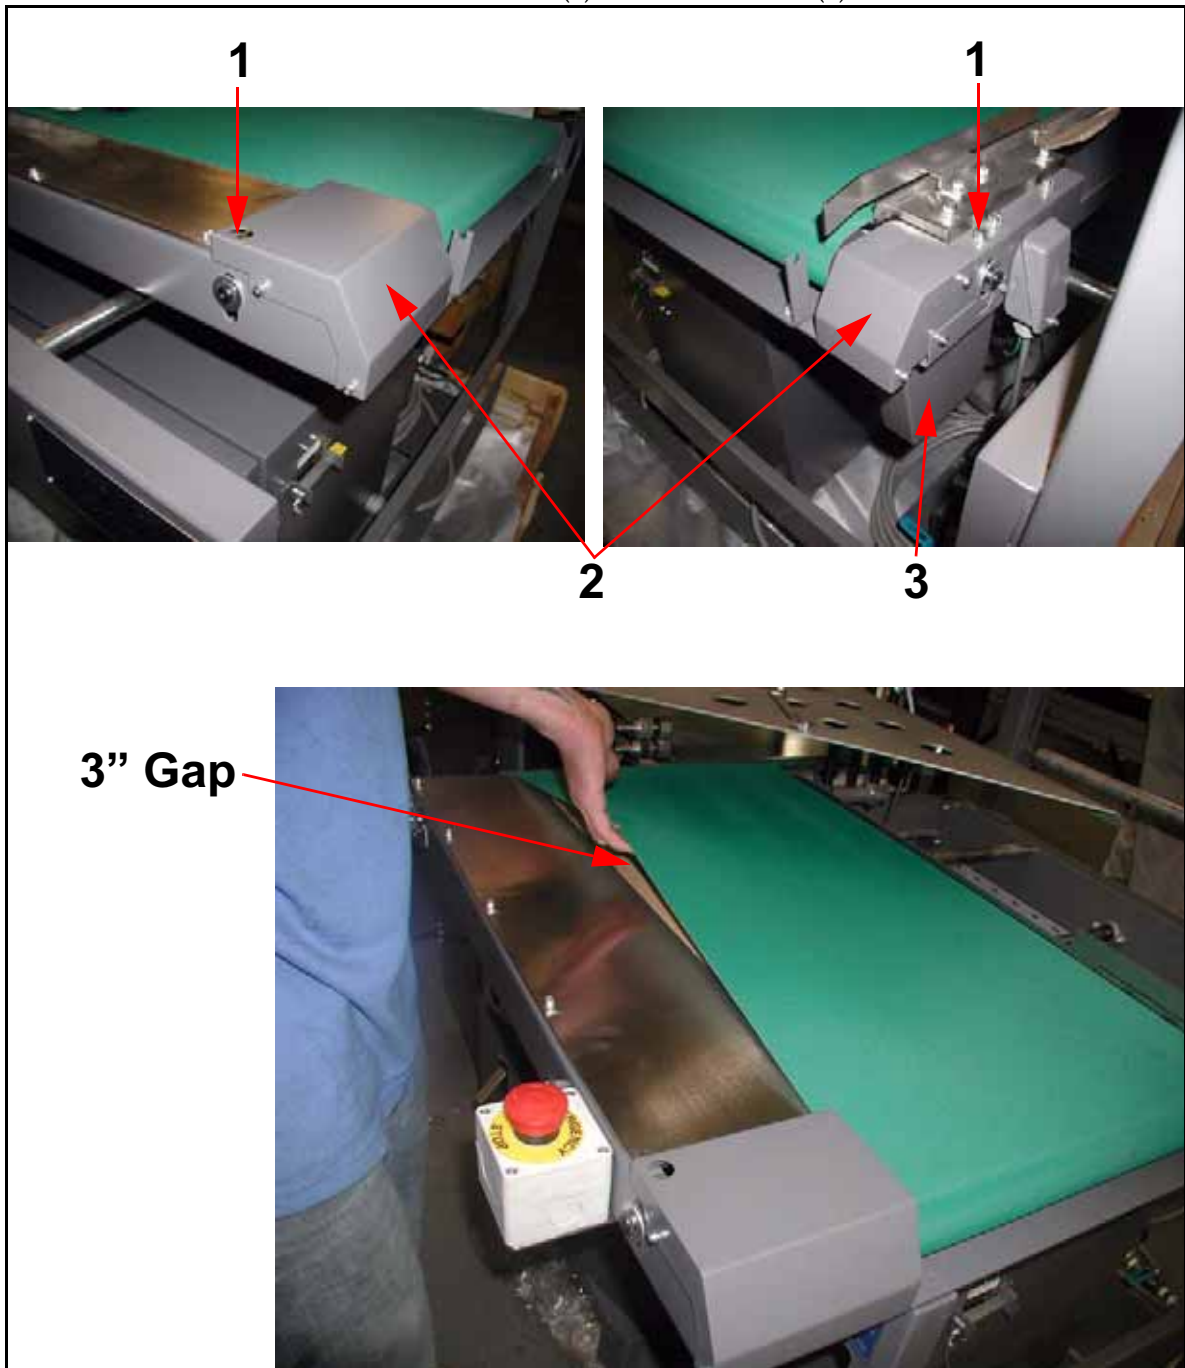

Figure 7-13. Conveyor Adjustment
- 15 Alternately and equally tighten conveyor tension screws (1 in Figure 7-13) until, under moderate pressure, there is about 3" of slack at the center of the belt.
- 17 Reattach side covers (2) and chain cover (3).